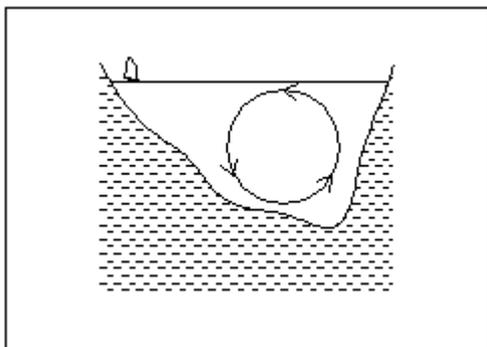

Fig. 3: Above 4°C all the water is involved in the phenomenon of convection currents.
Figure 3: test tube at the end of the experiment. The layer of ice in the upper part is visible; the elastic bands are placed at mid tube, the probes are at the bottom and inside the ice layer; the plastic balloon is used to avoid “pollution” of the lake with salt water.
- the funnel should contain the cryogenic mixture; to prevent liquid leaking use the elastic bands as shown in figure 3;
- close the test tube with the plastic balloon cut so as to allow the cables to pass through as shown in figure 3;